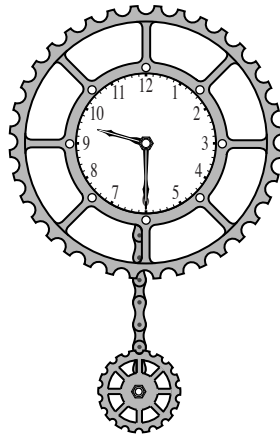

Fig. 1
16 Fig. 1 shows a clock made from recycled bicycle parts and a standard clock mechanism.
(b) With reference to the clock shown in Fig. 1, explain the meaning of the following **three** terms.
- (c)** The clock shown in Fig. 1 is designed to hang on a wall.